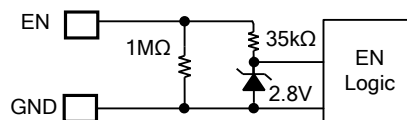

Figure 2: Zener Diode between EN and GND
Enable (EN) is a digital control pin that turns the regulator on and off. Drive EN high to turn on the regulator. Drive EN low to turn off the regulator. An internal 1MΩ resistor from EN to GND allows EN to be floated to shut down the chip. EN is clamped internally using a 2.8V series Zener diode (see Figure 2). Connecting the EN input through a pull-up resistor to VIN limits the EN input current below 100μA, preventing damage to the Zener diode. For example, if a 100kΩ pull-up resistor is connected to 12V VIN, then $I_{Zener} = (12V - 2.8V) / (100k\Omega + 35k\Omega) = 68\mu A$.